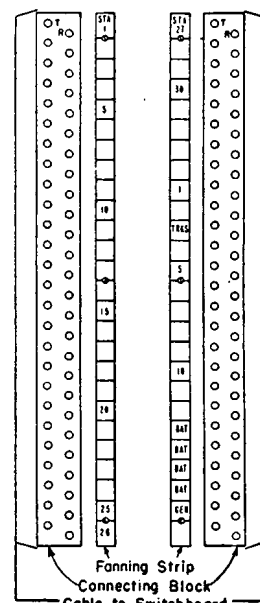

Fig. 5—Typical Arrangement at Cross-Connecting Terminal Box Using 51-Pair Cable
3.16 The size of the cross-connecting terminal box, the number of connecting blocks and fanning strips or the size of the binding post chamber, and the size of switchboard cable will vary with the capacity of the PBX being installed. See Figs. 5 and 6.
3.26 Fan and terminate cable at the main cross-connecting terminal according to Fig. 5 or 6.